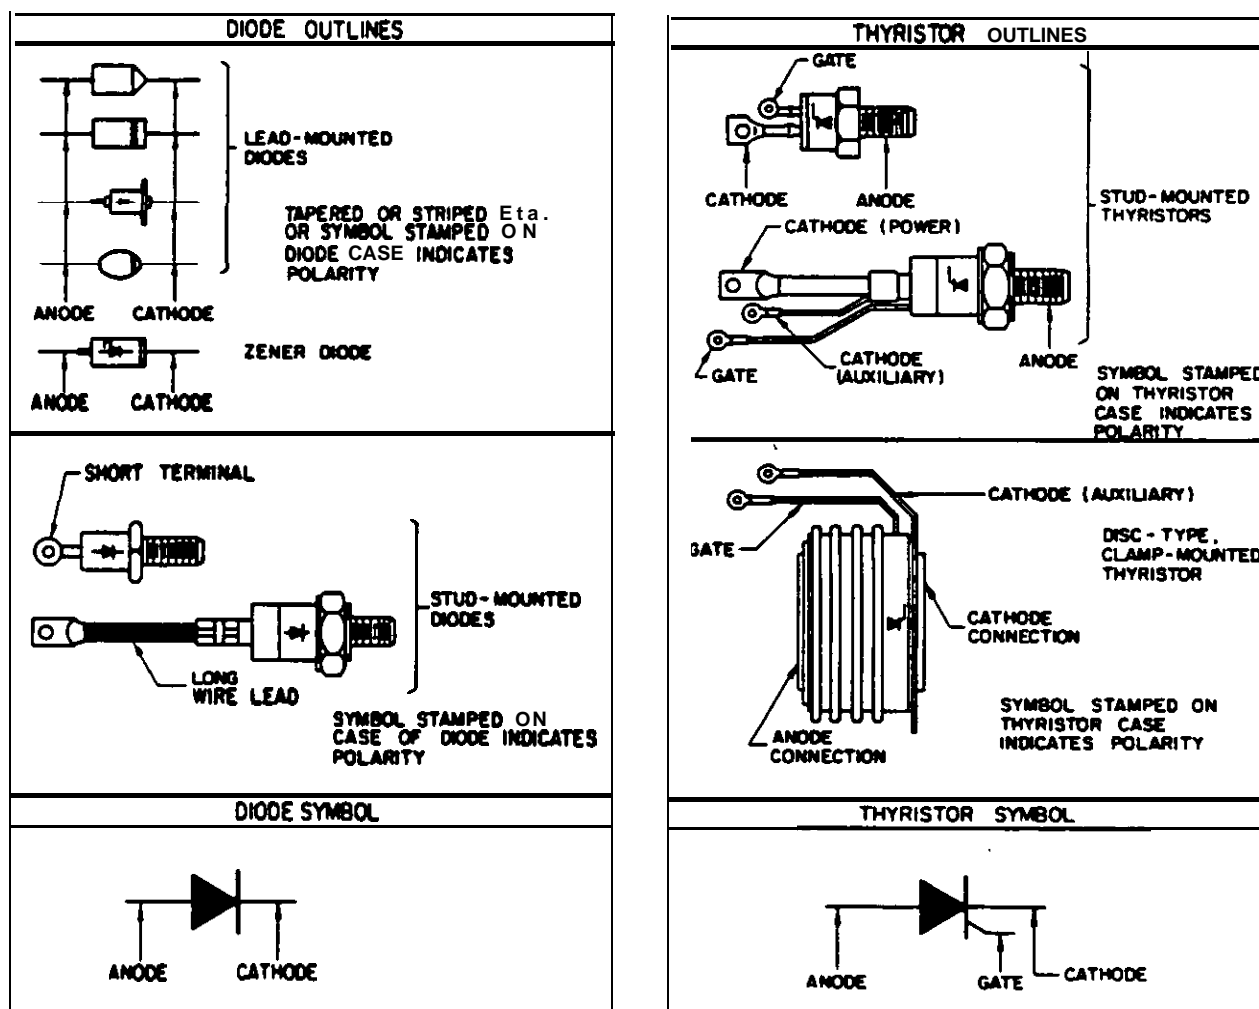

Figure 6-1. Semiconductor Outlines
6.07 Semiconductor device outlines for diodes and thyristors (SCR's) used in this UPS are shown in Figure 6-1. The outlines are intended to aid servicing personnel in identifying semiconductor terminations during troubleshooting or replacement procedures.